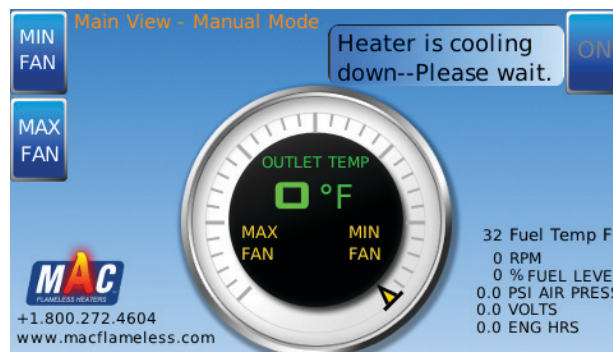

Figure 3-7. MANUAL mode.
- For minimum fan, press MIN FAN (*Figure 3-7*, item A).
- For maximum fan, press MAX FAN (*Figure 3-7*, item B).
1. Press OFF to stop the heater (*Figure 3-7*, item C). The screen displays “Heater is cooling down--Please wait” (*Figure 3-8*).